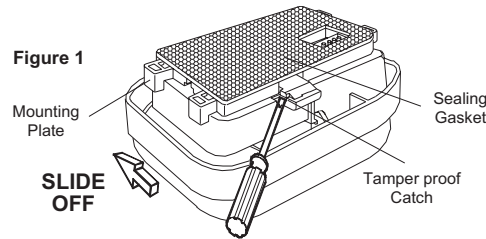

Figure 1
- ✓ REMOVE UNIT FROM MOUNTING PLATE BY RELEASING CATCH AS SHOWN IN FIGURE 1, SWITCH OFF MAINS FIRST.
4. Remove the mounting plate from the Smoke Alarm by releasing the tamper-proofing catch with a small screwdriver as shown in Figure 1 and sliding the Smoke Alarm from the plate.